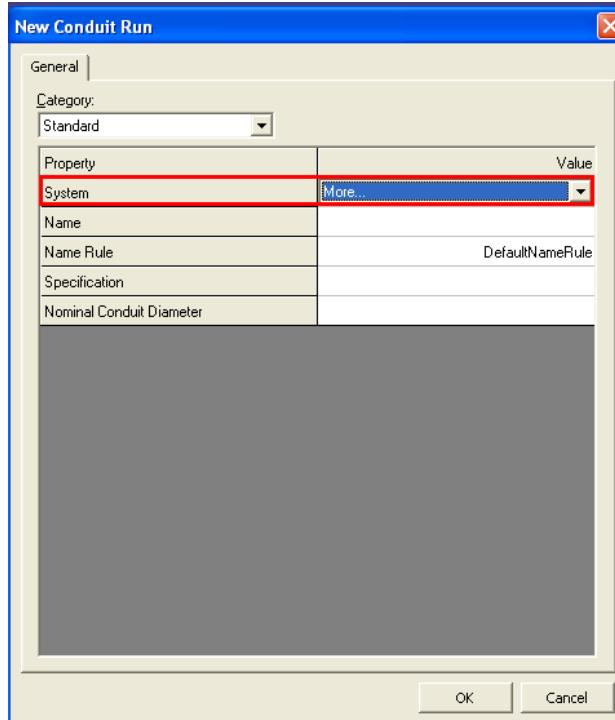

Figure 4: New Conduit Run Dialog Box
48. The **New Conduit Run** dialog box appears. Select the **More...** option on the **System** property option, as shown in Figure 4.